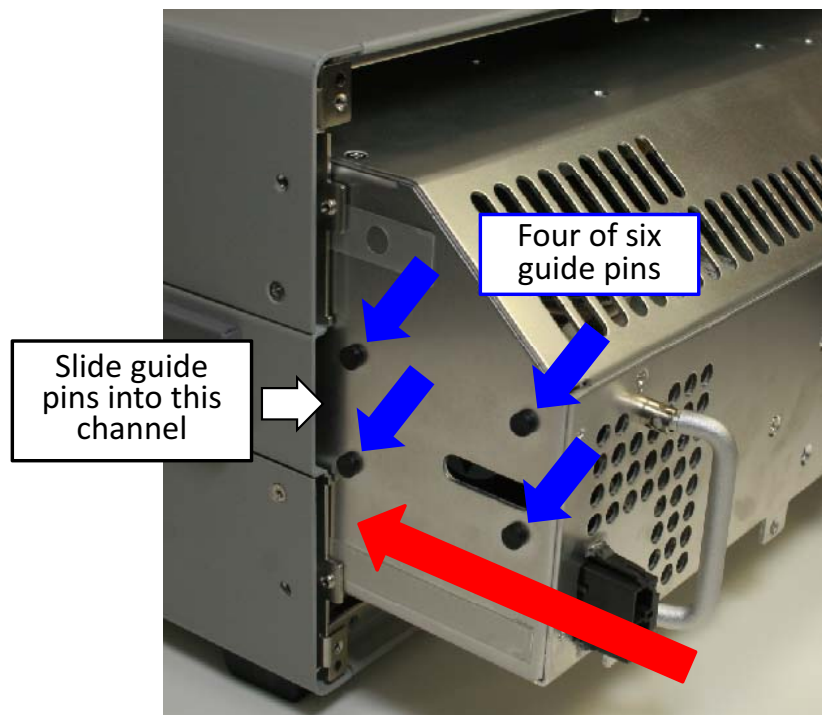

Figure 89 Slide the power supply in using the guide pins to align it
- 1 Slide the power supply in the chassis, ensuring that the six guide pins on each side of the power supply are aligned in the channel inside each side of the chassis—see Figure 89.